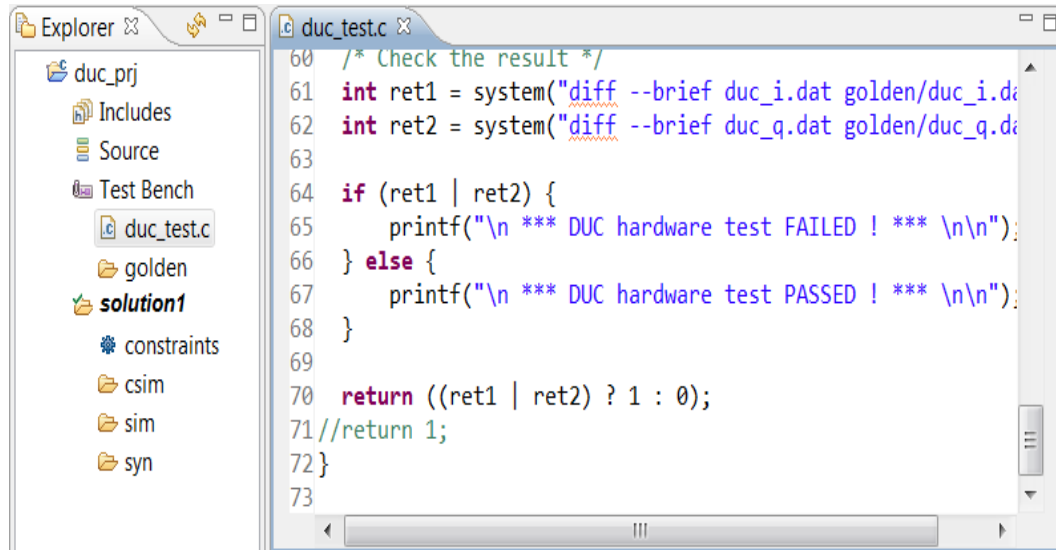

Figure 8-7: RTL Test Bench
1. Expand the **Test Bench** folder in the Explorer pane (Figure 8-7).